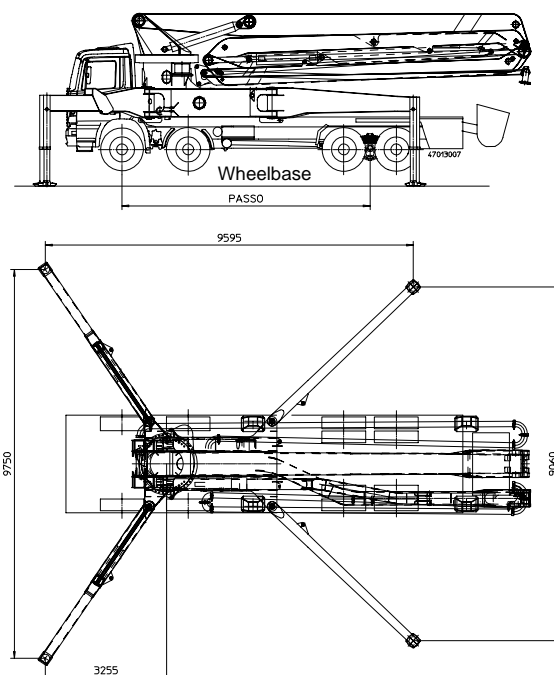

FIG. 41
05.1.6 - Open the stabilizers completely, slide the horizontal telescopic elements until the reference arrows are aligned (fig. 54) which indicate correct opening. The stabilizer dimensions shown in the illustration will have thus been achieved (fig. 41).